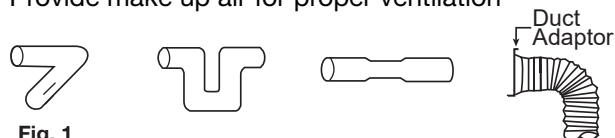

Fig. 1
7. Do not install the unit where ducts are configured as shown in Fig. 1.